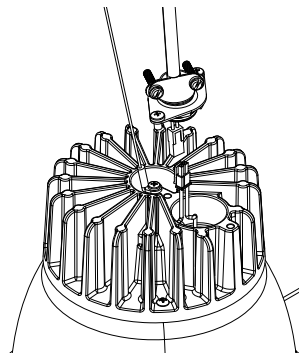

Figure 2
2. Connect LED plug to socket. See Figure 2.